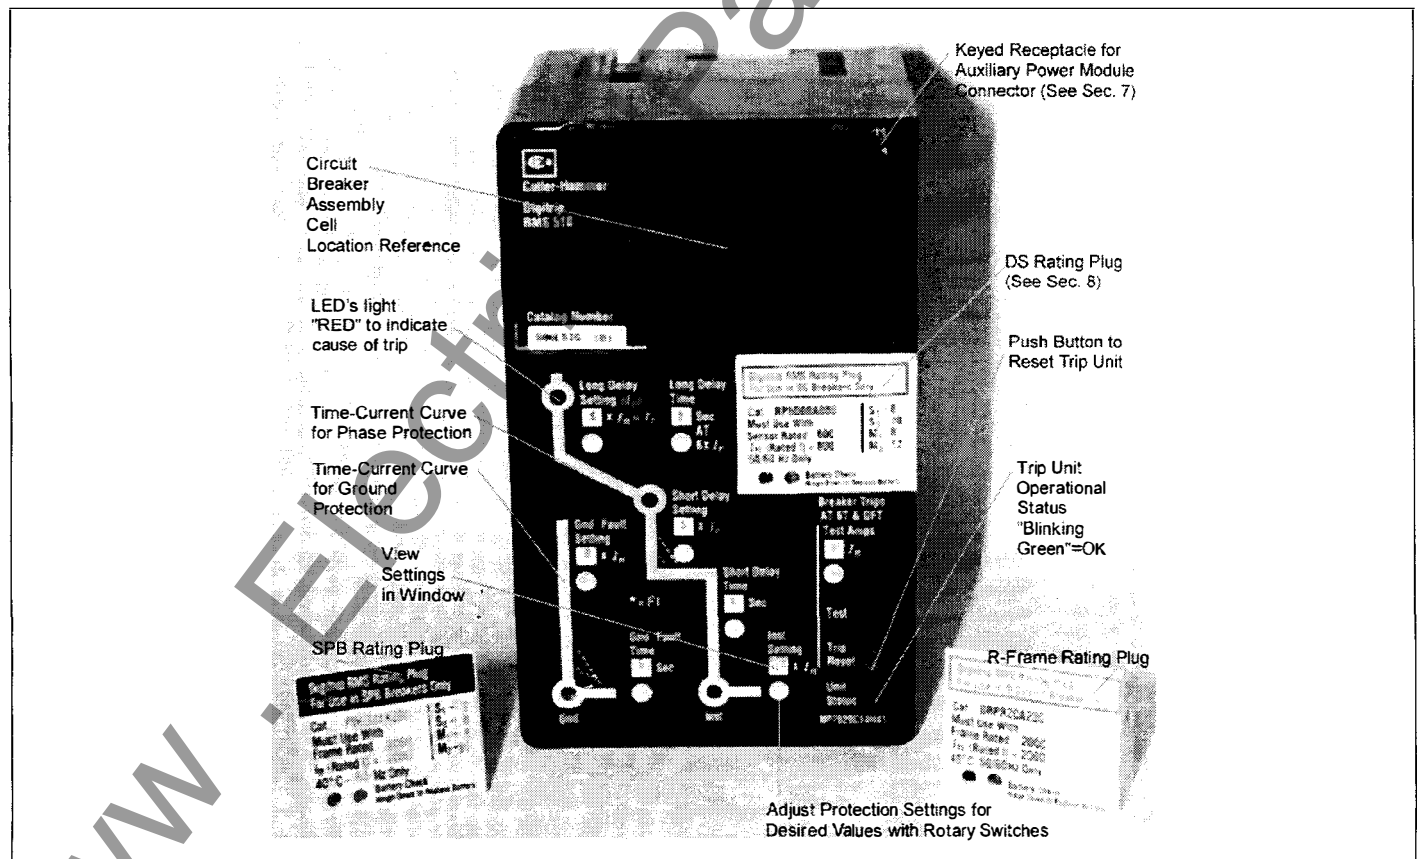
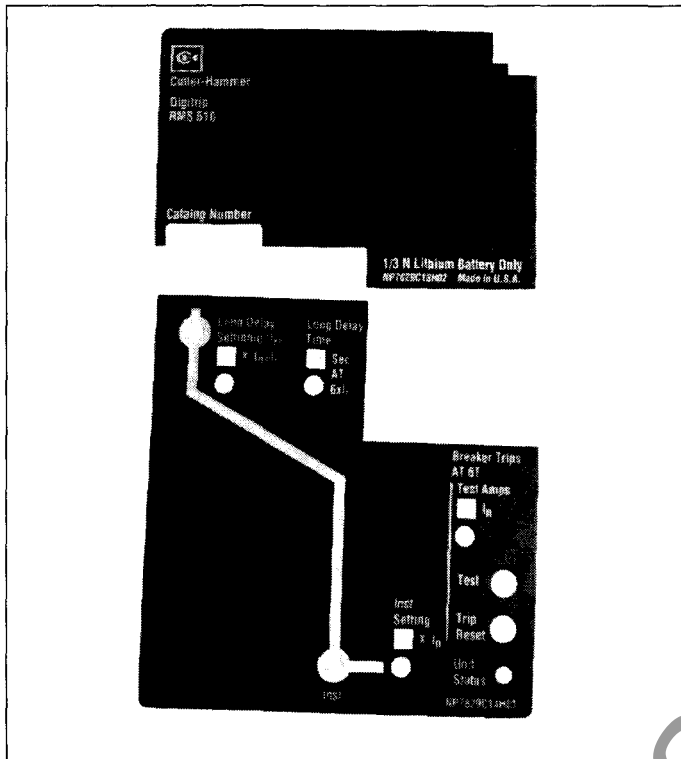
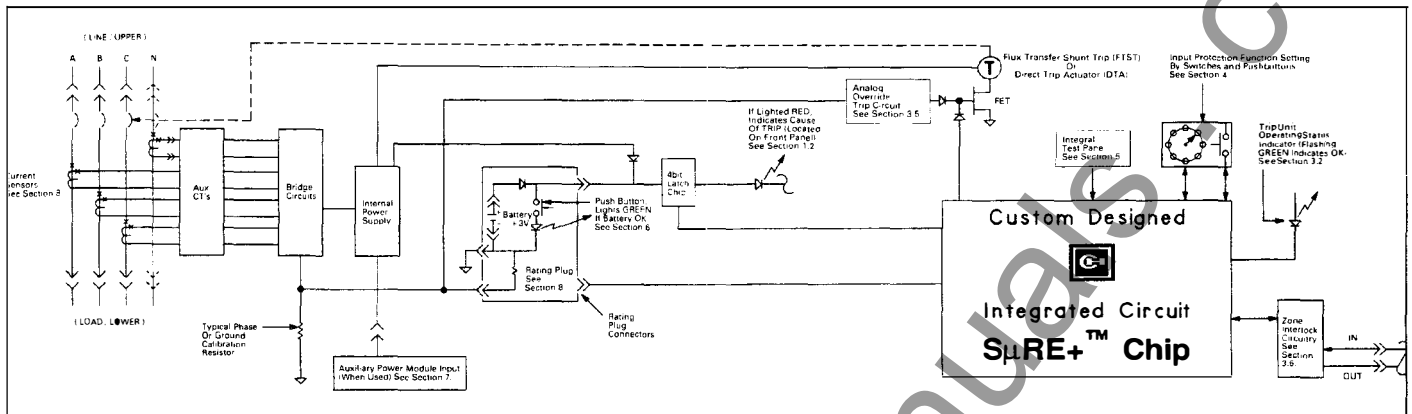
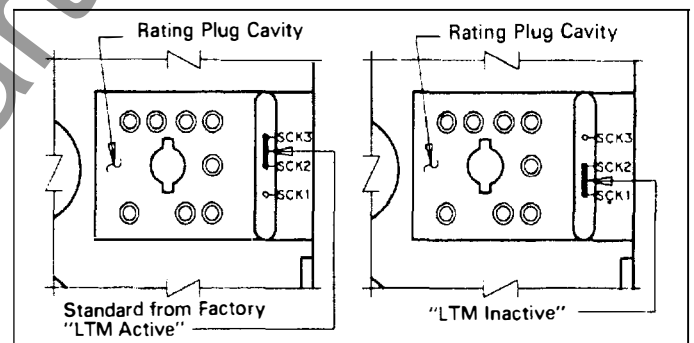

Fig. 1 Digitrip RMS 510 Trip Unit Model LSIG with Rating Plug
Fig. 2.1 Long Time/Instantaneous Protection (LI)
Fig. 3 Digitrip RMS 510 Block Diagram with Breaker Interface
Fig. 4.2.1 Long Time Memory "LTM" Jumper
The Digitrip RMS 510, illustrated in Fig. 1, is a custom application specific integrated circuit based trip unit suitable for use in types DS and DSL low voltage AC power circuit breakers and type SPB Systems Pow-R circuit breakers and Series C[®] R-Frame molded case circuit breakers.
The Digitrip RMS 510 Trip Unit is available in six different types. Each trip unit may be equipped with a maximum of five phase and two ground (time-current) adjustments to meet specific application requirements. The types of protection available for each model include the following, which are illustrated in Figures 2.1 through 2.6:
The Digitrip RMS 510 Trip unit provides three basic functions: Protection, Information and Testing. A typical trip unit and rating plug are illustrated in Fig. 1. Individual product instruction leaflets referenced in Section 9.0 illustrate typical Digitrip RMS Trip Units installed in specific breakers.
The trip unit employs the Cutler-Hammer Inc. custom designed integrated circuit S μ RE + chip, which includes a microcomputer to perform its numeric and logic functions. The principle of operation is described by the block diagram shown in Fig. 3.
The LEDs, shown in Figs. 1 and 2.1-2.6, on the face of the trip unit, light "RED" to indicate the reason for any automatic trip operation. As indicated in Figs. 2.1-2.6, each LED is strategically located in the related segment of the time-current curve depicted on the face of the trip unit. The reason for trip is identified by the segment of the time-current curve where the LED is lighted "RED". Following an automatic trip operation, the back-up battery, continues to supply power to the LEDs as indicated in Figs. 3 and 6. To check the status of the battery, see Section 6.
Push the "Trip Reset" button shown in Fig. 1, to turn "Off" the LEDs following a trip operation.
A green colored LED, as shown in Fig. 1, indicates the operational status of the trip unit. Once the load current through the circuit breaker exceeds approximately 10% of the frame/current sensor rating, the green LED will flash "On" and "Off" once each second, to indicate the trip unit is energized and operating properly.
Zone Selective Interlocking (or Zone Interlocking) is available (see Fig. 3) for Digitrip RMS Trip Units having Short Delay and/or Ground Fault protection. Zone Selective Interlocking provides the fastest possible tripping for faults within the breaker’s zone of protection, and yet also provides positive coordination among all breakers in the system (mains, ties, feeders and downstream breakers) to limit the outage to the affected part of the system only. When Zone Interlocking is enabled, a fault within the breaker’s zone of protection will cause the RMS DIG-ITRIP trip unit to:
Prior to placing circuit breaker in operation, each trip unit protection setting must be set to the values specified by the engineer responsible for the installation. The number of settings that must be made is determined by the protector model supplied as illustrated in Figs. 2.1 through 2.6. Each setting is made with a rotary switch, using a small screwdriver. The selected setting for each adjustment appears in its respective rectangular viewing window as illustrated in Fig. 1.
In certain applications it may be desirable to disable the LTM function. The LTM function can be disabled by (first opening the breaker and then) removing the Rating Plug (See Figures 1 and 6), and lastly moving the LTM jumper (inside the rating plug cavity, See figure 4.2.1) to its "INACTIVE" connection. (You can enable the LTM function again any time you wish by moving the LTM jumper back to its original "ACTIVE" connection.)
- 2) There is a condition under which the Long Delay Trip LED can erroneously indicate a LDT has occurred, even though the breaker is still closed. This can happen when an overload current momentarily exceeds the Long Delay Current Setting, I_r , so that the Long Delay LED flashes "RED" to indicate the overload condition. Then if, at the very moment when the LED is "ON", the load current would then suddenly drop to a value less than 10% of the breaker frame (or current sensor) rating, the trip unit stops functioning while the "4bit Latch Chip" (See Fig. 3) is set and the LED remains Lighted. If the current would again increase to a value above the Long Delay Current Setting, I_r , and then return to normal, the
LDT will reset itself. You can of course, manually clear the LDT (or any other trip indication) at any time, by pushing the "PUSH to RESET" button. (See Figure 1.)